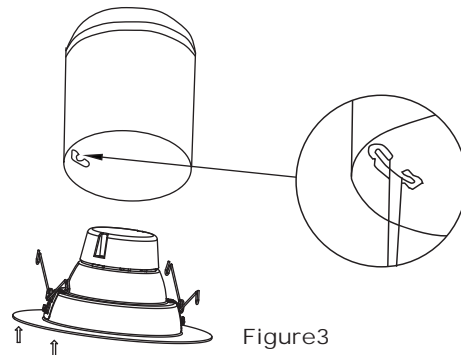

Figure3
STEP4: Squeeze the torsion springs together and install into torsion spring brackets inside the housing as shown. (Figure 3)